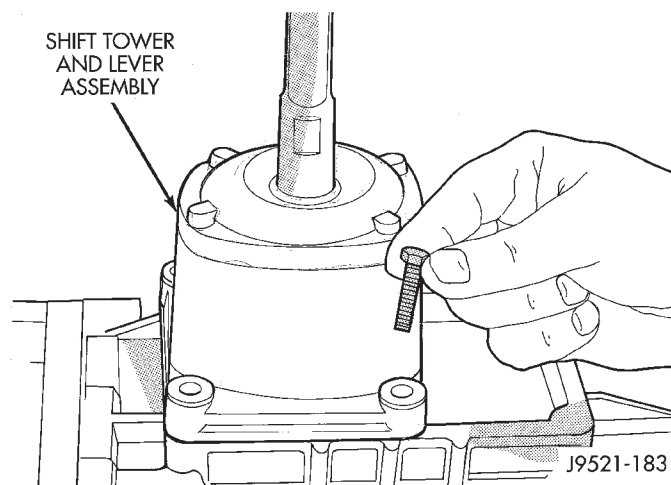

Fig. 134 Shift Tower Bolt Installation
(1) Apply petroleum jelly to ball end of shift lever and interior of shift socket.
(2) Align and install shift tower and lever assembly. Be sure shift ball is seated in socket and the offset in the tower is toward the passenger side of the vehicle before installing tower bolts.
(3) Install shift tower bolts (Fig. 134). Tighten bolts to 7-10 N·m (5-7 ft. lbs.) torque.